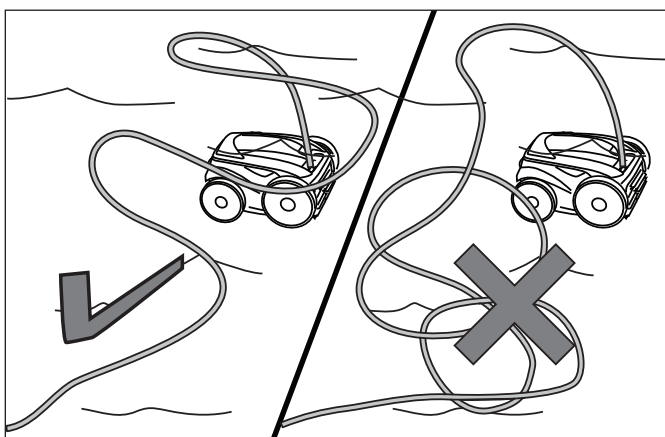

Figure 15. Spread Floating Cable Over the Pool
3. Spread out the floating cable over the pool, ensuring there are no kinks or coils in the cable. Refer to Figure 15.